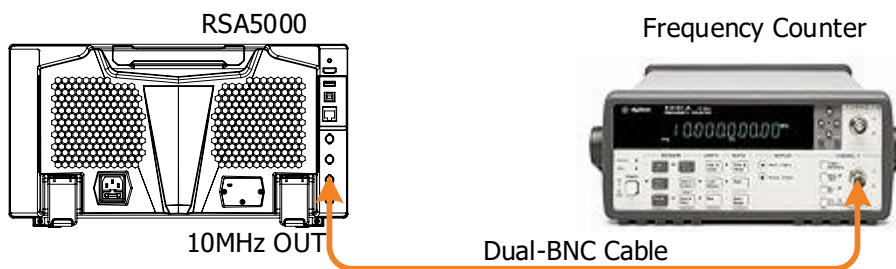

Figure 2-9 10 MHz Reference Output Accuracy Test Connection Diagram
1. Connect the **[10 MHz OUT]** terminal on the rear panel of the spectrum analyzer with the frequency counter, as shown in Figure 2-9.